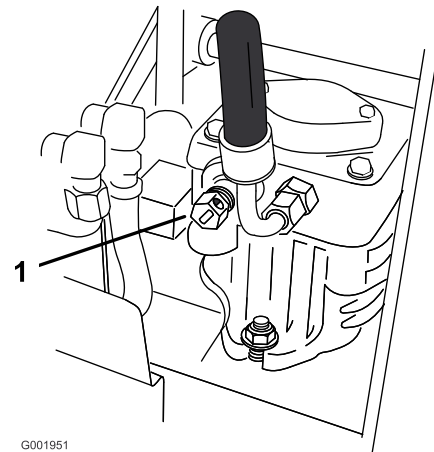

Figure 25
2. Open the by-pass valve on both pumps by turning them counter clockwise 1 to 2 turns. This allows hydraulic fluid to by-pass the pumps and the wheels to turn (Figure 25).